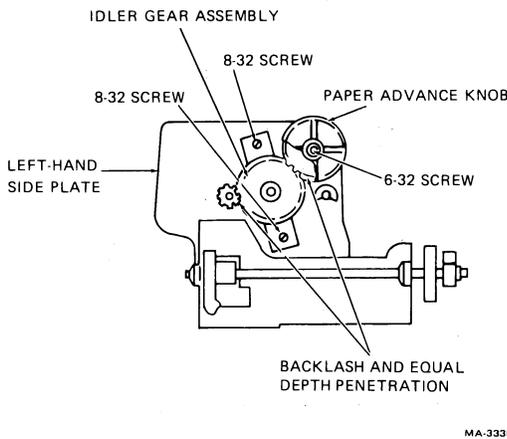

Fig. 17—Idler Gear Assembly Removal and Installation
- (b) Remove the two (8-32) screws, lockwashers, and flat washers that secure the idler gear assembly to the left-hand side plate (Figure 17).
- (b) With the idler gear in mesh with the stepping motor gear and the tractor drive gear, adjust the idler gear to achieve equal depth penetration and a minimum backlash* (Figure 17). Check for binding by sliding the idler gear in and out. Rotate the gears to several positions and repeat the check for binding.